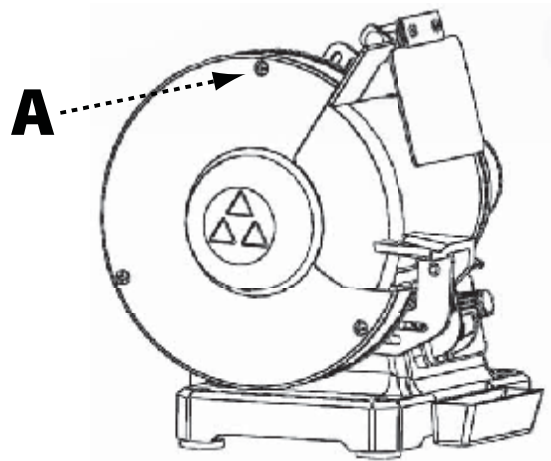

FIGURE 4
1. Remove the thumb screws (A) securing the outer face of the wheel guard to the tool frame. See Figure 4.
For steps 1-4, refer to Figures 4 & 5 on page 10: